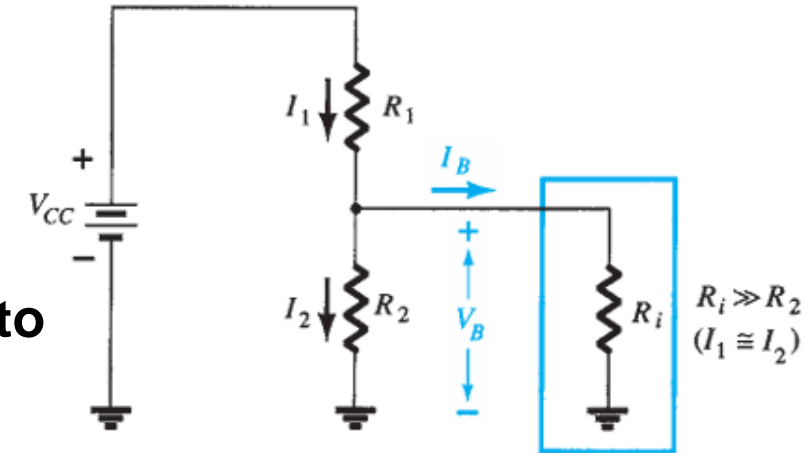

FIG. 4.36
- The input section of the voltage-divider configuration can be represented by the network of Fig. 4.36